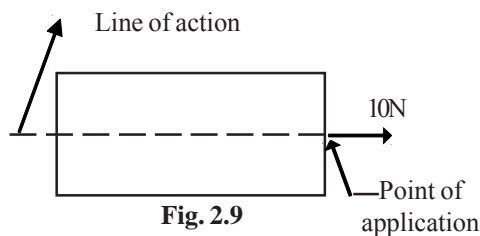

Fig. 2.9
- a) Representation of a force: Force is a vector quantity. Magnitude, direction and point of application of a force are required to represent it (Fig.2.9)